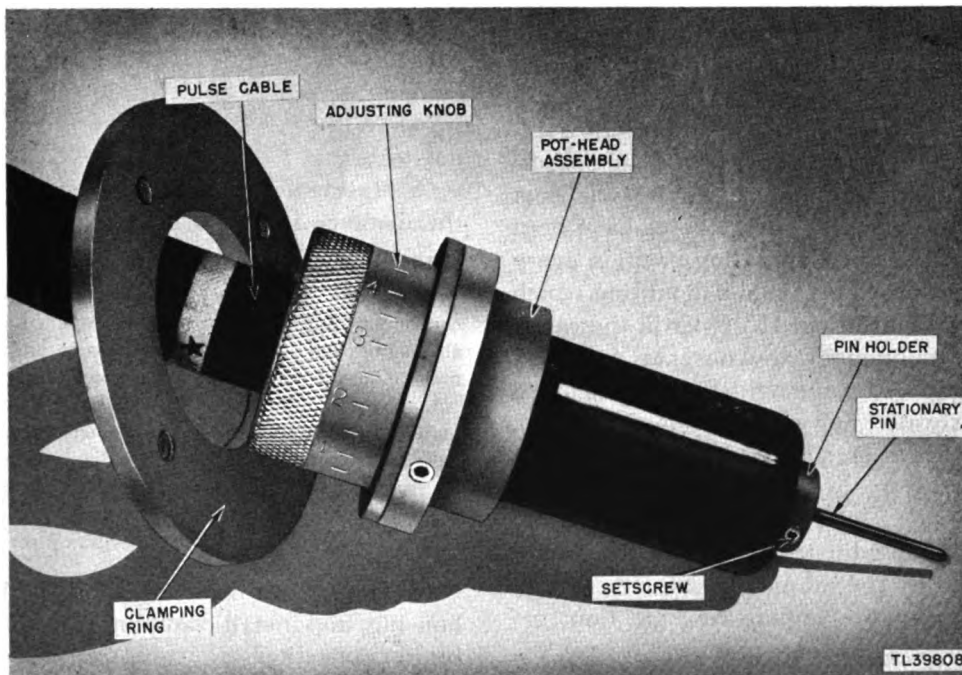

Figure 170. Stationary pin of rotary spark gap.
c. Loosen the four 10-32 screws in the clamping ring (fig. 170) around the adjusting knob sufficiently to allow the knob to be turned.
(1) Remove the 10-32 screws from the pot-head clamping ring (fig. 170).
(2) Carefully withdraw pot-head from spark gap housing. (The pins are made of tungsten and are very brittle. Be careful.)
(3) Loosen the 6-32 Allenhead setscrew which fastens the pin in holder.
(4) Withdraw pin from the holder. Be careful not to break it off.
(5) Insert new pin and tighten setscrew so that the distance from pot-head face to end of pin is  $1\frac{1}{16}$  inches.
(6) Insert pot-head assembly with spark gap housing, and install clamping ring screws and the braid connection.
(7) Adjust the gap spacing as outlined in paragraph 87, Adjustment of Spark Gap.
d. REPLACING SPARK-GAP BRUSHES. (1) Tag for replacement and remove connections from the spark-gap motor.